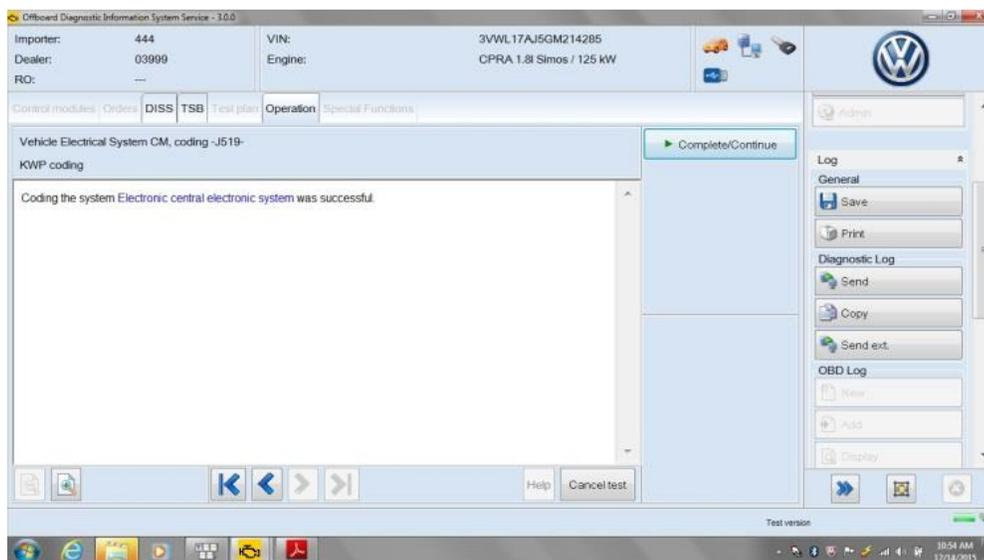

Figure 9
- Next screen displays (Coding the system Electronic central electronic system was successful) depress Complete/Continue. (Figure 9)